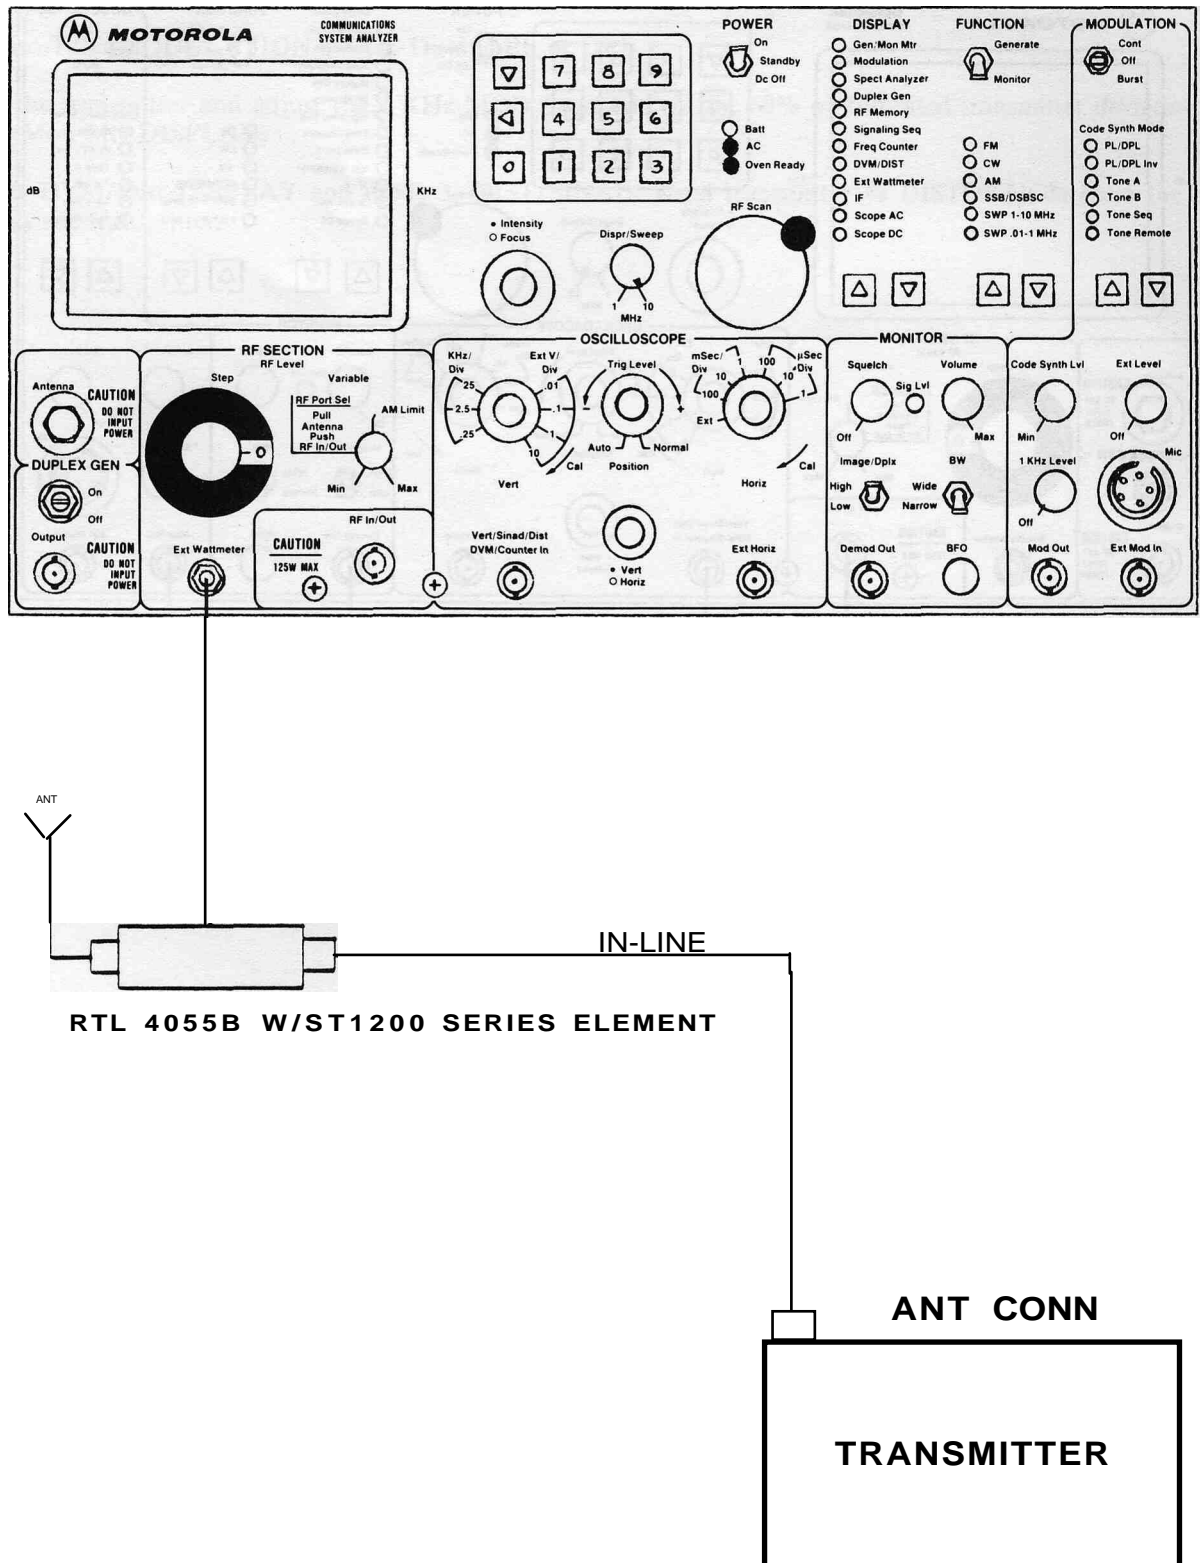

FIGURE 4-8. TRANSMITTER TEST SETUP; POWER MEASUREMENTS
1. Referring to figure 4-8, connect the RTL-4055B in-line wattmeter adapter with the appropriate ST-1200 series element in the 50 ohm antenna line with the arrow pointing towards the antenna. Plug the adapter's cable into the Analyzer's Ext Wattmeter jack. Refer to table 3-12 in this Manual for further description of elements.